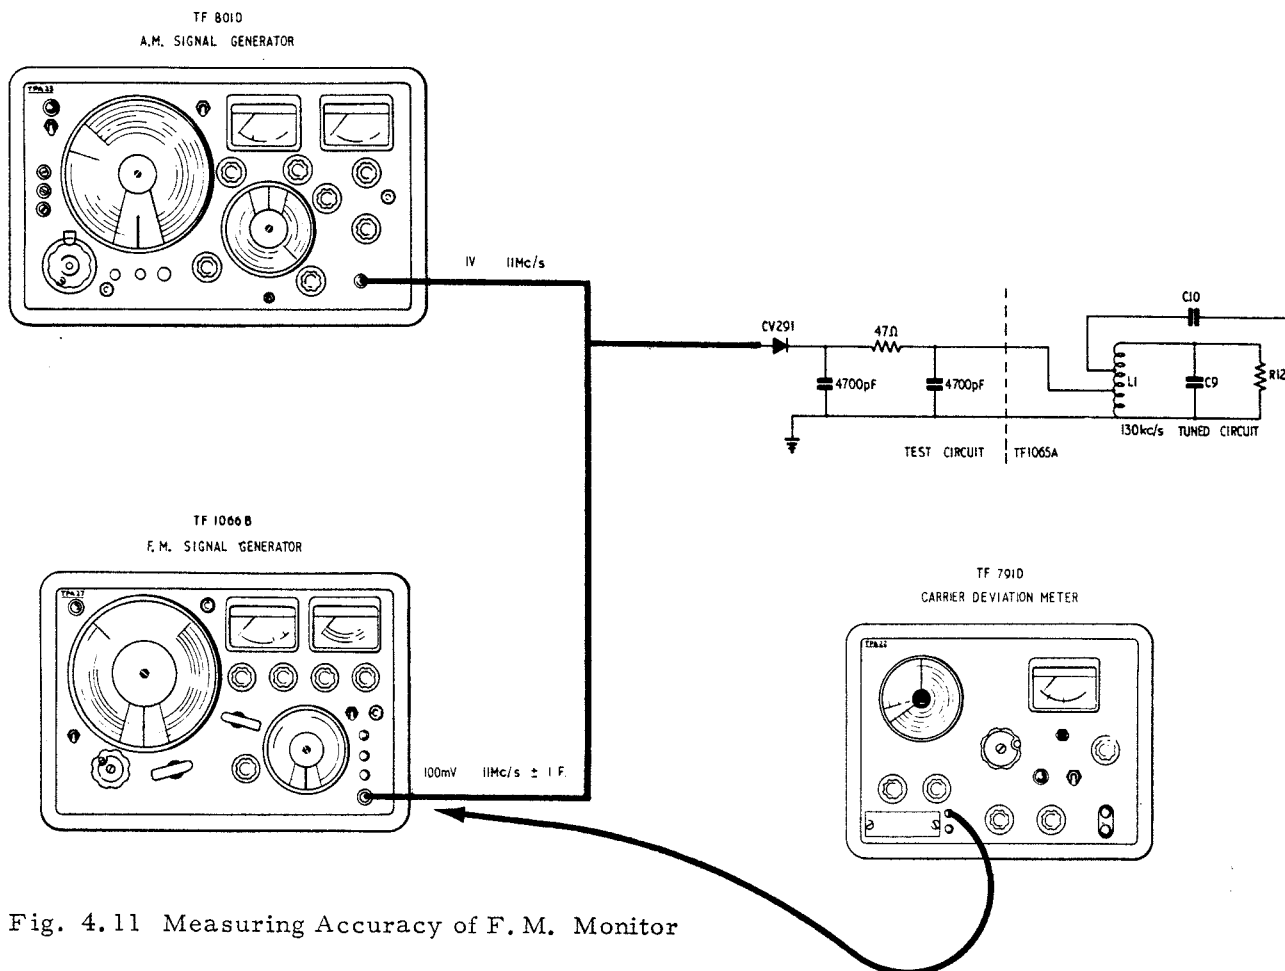

Fig. 4.11 Measuring Accuracy of F.M. Monitor
- (o) Test circuit for deviation indicator, see Fig. 4.11.